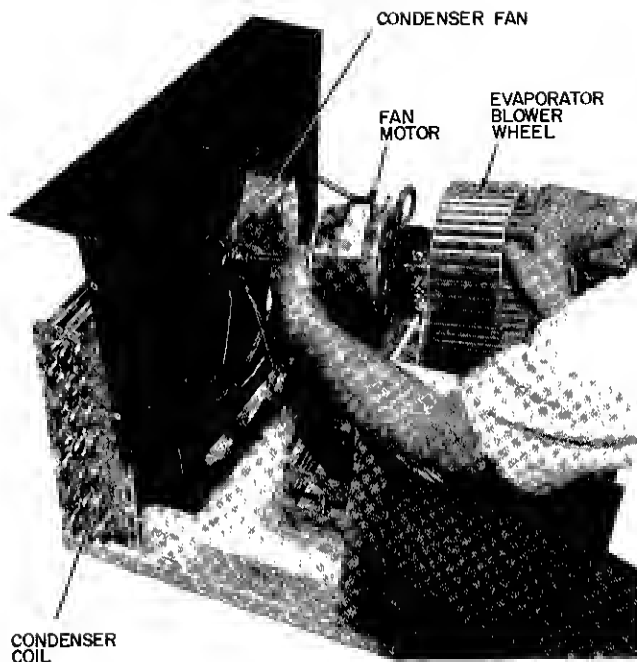

Fig. 32 — Evaporator Fan Section
**36 Fan Section —** See Fan Section in Fig 32
- i Gently lift fan assembly out of chassis See Fig 32
37 **Evaporator Fan** — See Evaporator Fan in Fig. 32
38 **Condenser Fan** — See Condenser Fan in Fig. 32
39 **Fan Motor** — See Fan Motor in Fig. 32
42 **Evaporator and Condenser Coils** — See Evaporator and Condenser Coils in Fig. 32 and 33 These coils have copper tubing and the interconnecting tubing has been manufactured as an integral part of the coil to aid in servicing